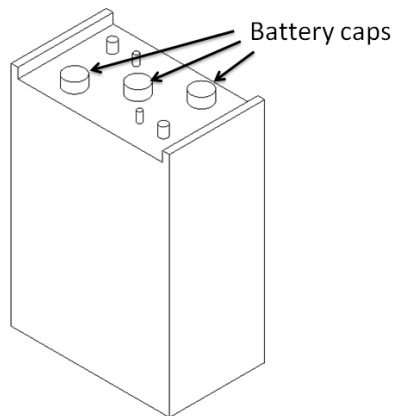

Figure 18 : Battery caps location
2. Remove the white battery caps (3 per battery) to have access to the interior of the battery (see Figure 18).